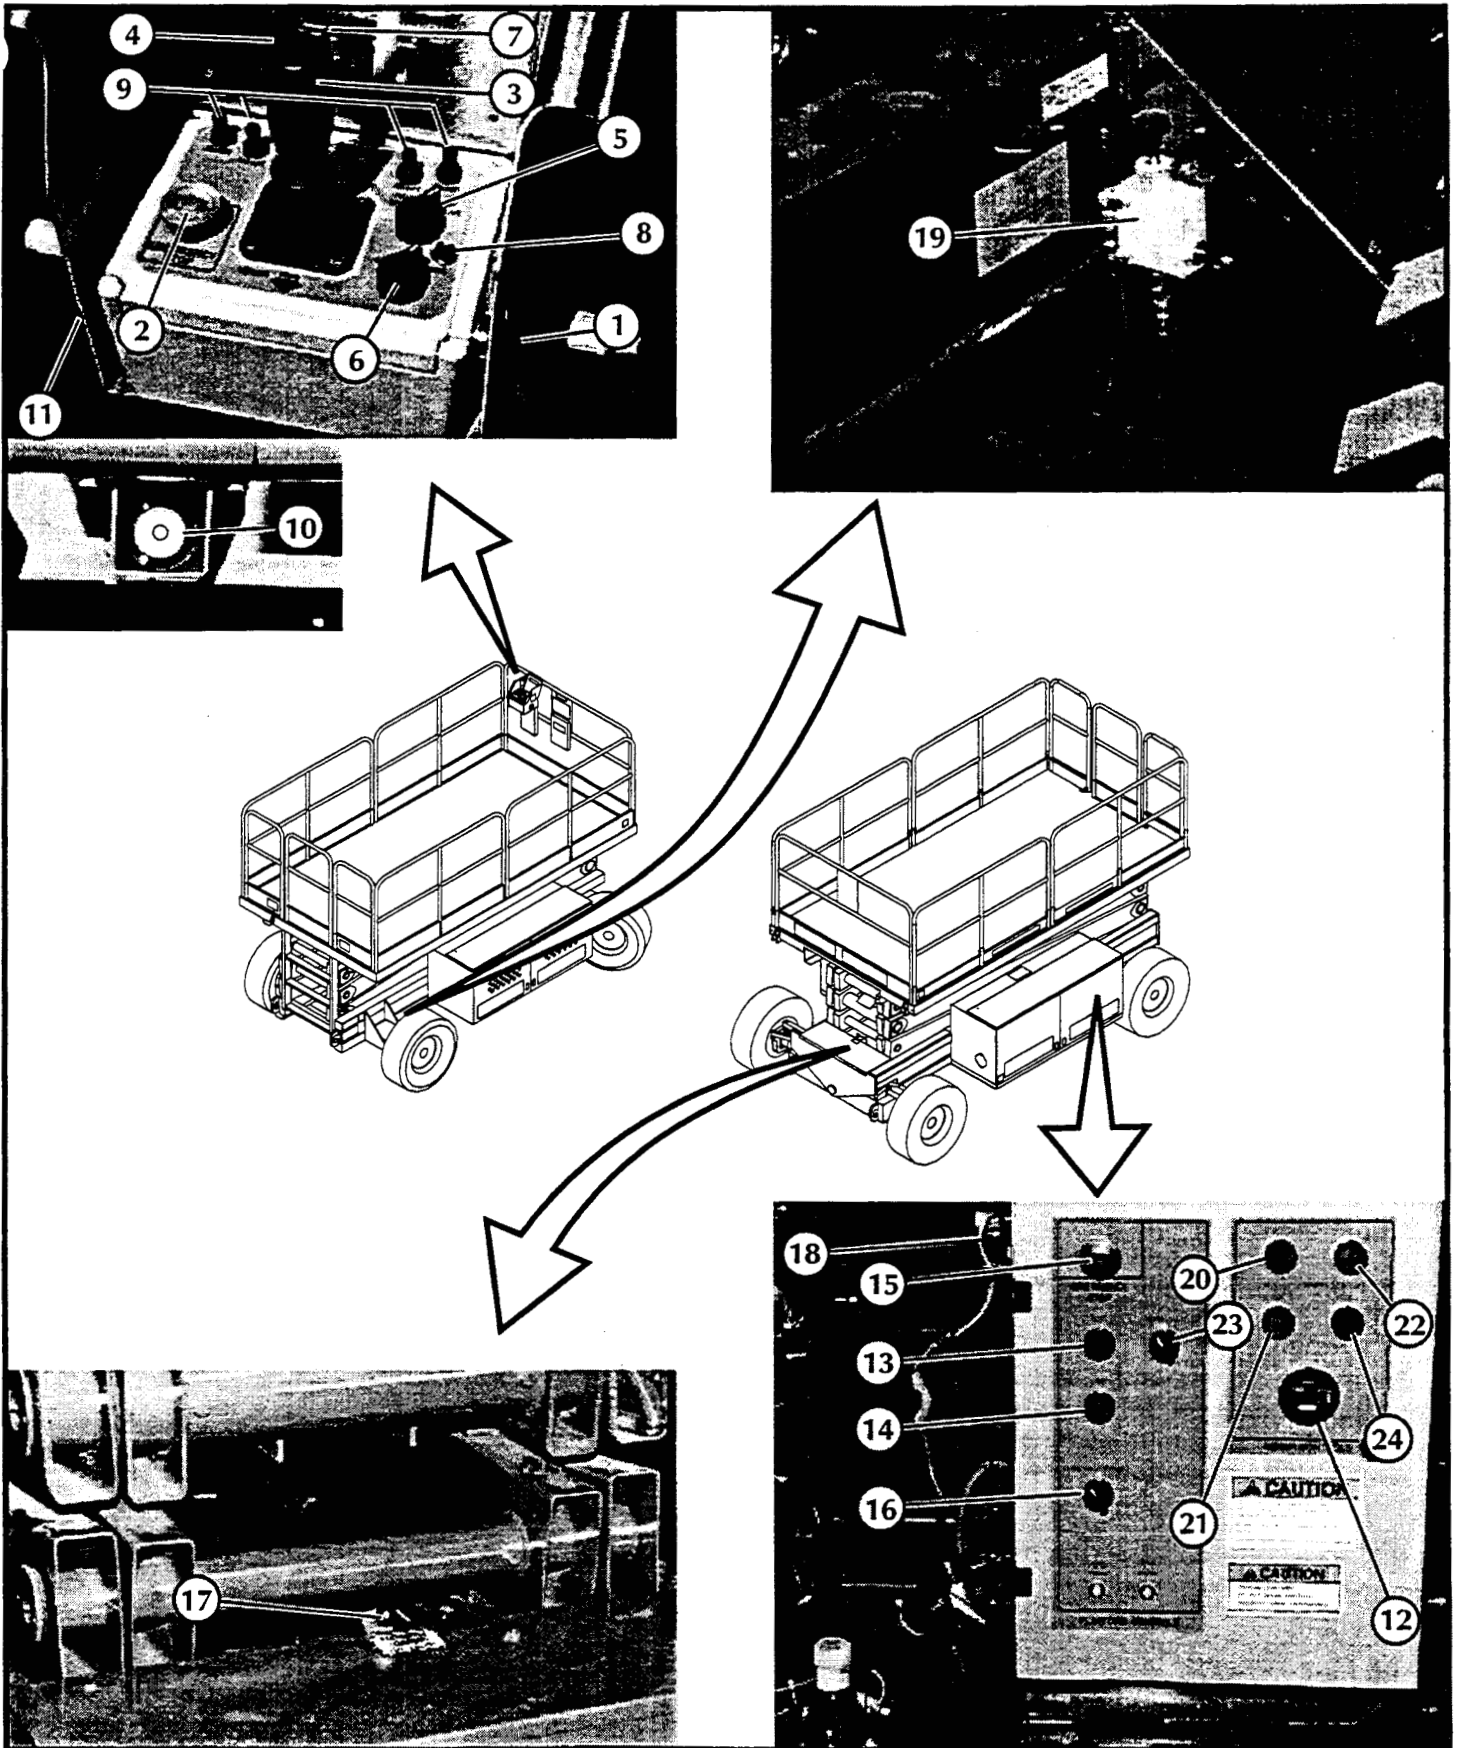

Figure 3-1: Controls and Indicators
The controls and indicators for operation of the LX50 Work Platform are shown in Figure 3-1. The name and function of each control and indicator are listed in Table 3-1. The index numbers in Figure 3-1 correspond to the index numbers in Table 3-1. The operator shall know the location of each control and indicator and have a thorough knowledge of the function and operation of each before attempting to operate the unit.
8. Place chassis and platform emergency stop switches in the ON position (Figure 3-1) by pulling the buttons out.
9. Verify platform/chassis switch is on **PLATFORM** (Figure 3-1).
14. Open the chassis emergency lowering valve (Figure 3-1) to check for proper operation by pulling and holding the knob out. Once the platform is fully lowered, close the valve by releasing the knob.
The emergency lowering valve is located at the front of the machine at the base of the scissor assembly, (Figure 3-1).
1. With engine running turn the fuel selector switch (Figure 3-1) to the center position.
## **3.5 Parking Brake Release (Figure 3-1)**